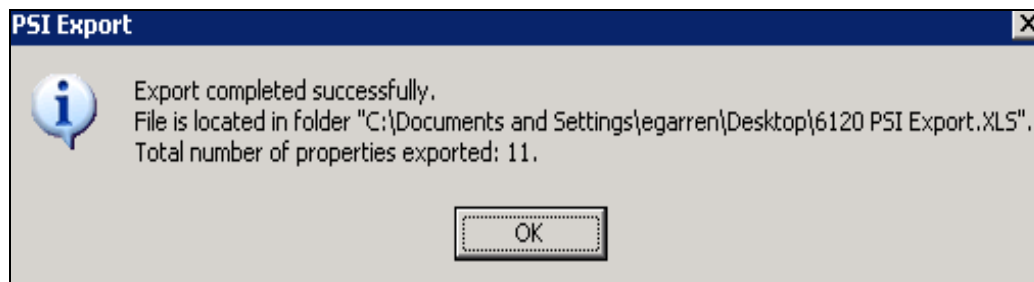

Figure 6-107: PSI Export Message – Export completed successfully
3. Identify the location where you want to save the spreadsheet. In the File Name field, type a file name for the new exported PSI spreadsheet. If successful, the following PSI Export message will appear (Figure 6-107):